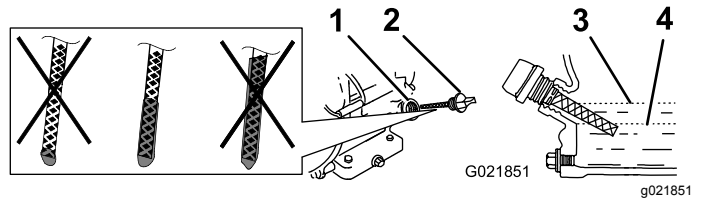

Figure 19
4. Clean around the dipstick (Figure 19) so that dirt cannot fall into the fill hole and damage the engine.
6. Insert the dipstick fully into the fill hole, but **do not screw it in** (Figure 19).
7. Remove the dipstick again and look at the end. If the engine-oil level is low, slowly pour only enough oil into the fill hole to raise the level to the Full mark on the dipstick (Figure 19).